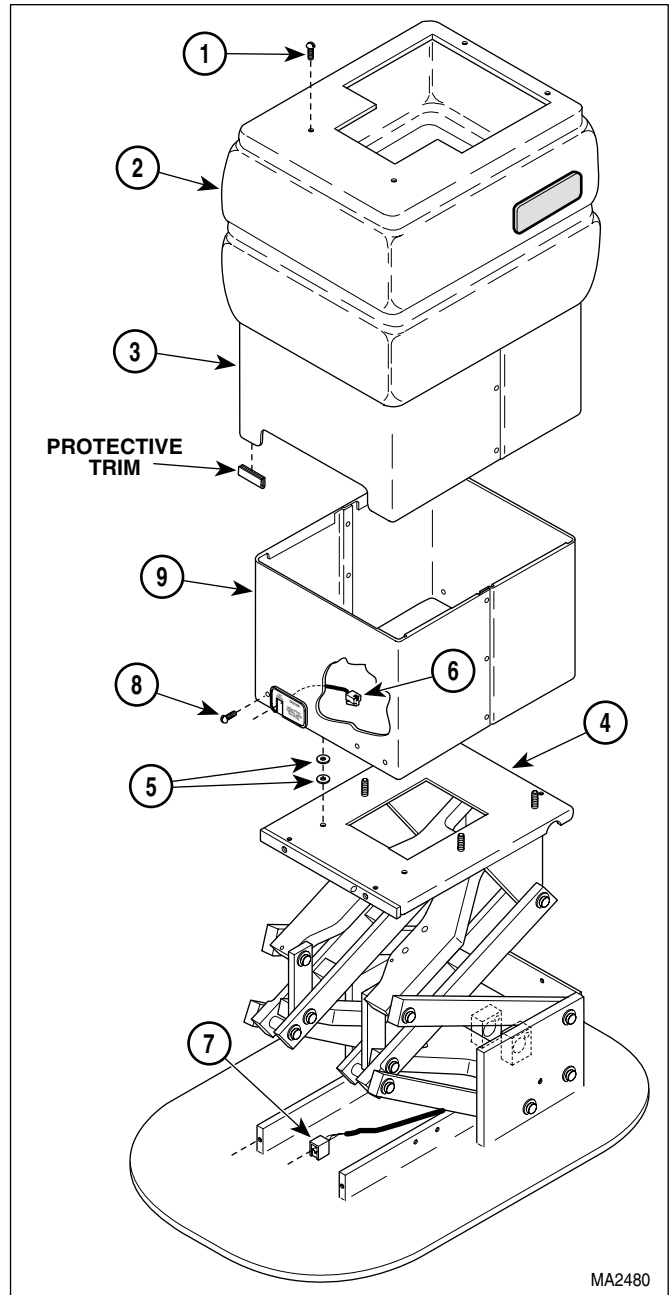

Figure 4-4. Shrouds Removal / Installation
- (1) Remove table top (Refer to para 4.3).
- (2) Remove four screws (1, Figure 4-4); then remove base outer shroud (2) and outer shroud (3) as an assembly from base subassembly (4).
- (3) Remove shims (5), making sure to note number and location of shims for installation.